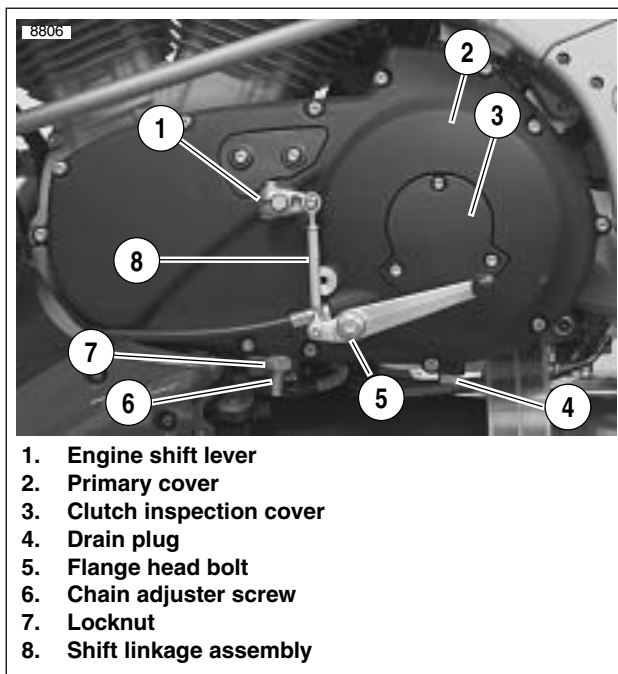

Figure 6-8. Installing Shift Linkage
12. See Figure 6-8. Install rubber washer and engine shift lever assembly (1).
13. After applying LOCTITE 272, install flange bolt (5) and shift pedal to primary cover, and tighten to 22-24 **ft-lbs** (30-32.5Nm).
15. If the shift linkage assembly (8) was removed for any reason, apply Loctite 272 to fasteners and tighten to 36-60 **in-lbs** (4-6.8 Nm). Adjust to rider comfort.